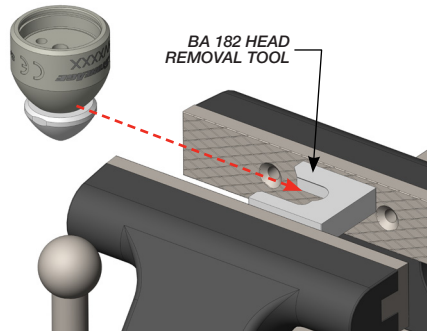

Figure 12: For Steps 3 & 4
3. Clamp the BA 182 Head Removal Tool into a vise with the flat side facing up. See Figure 12.
4. Slide the WV Assembly into the Head Removal Tool. See Figure 12.